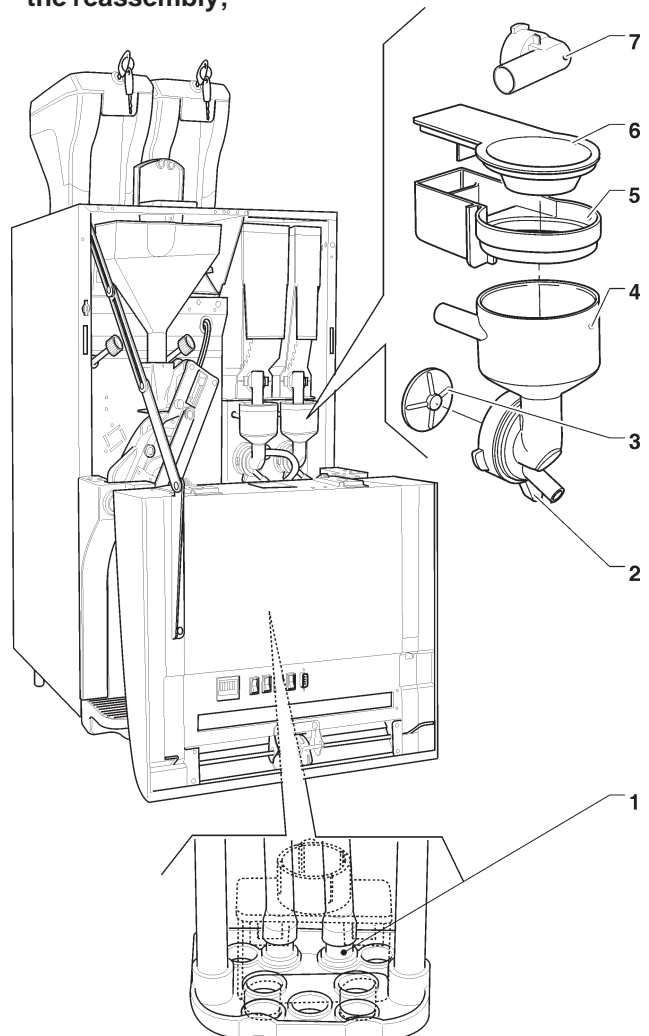

Fig. 10
- remove (see fig. 10) the powder funnels, the water funnels, the collection boxes, the powder deposit drawers and the whipper motor wheels from the mixers;